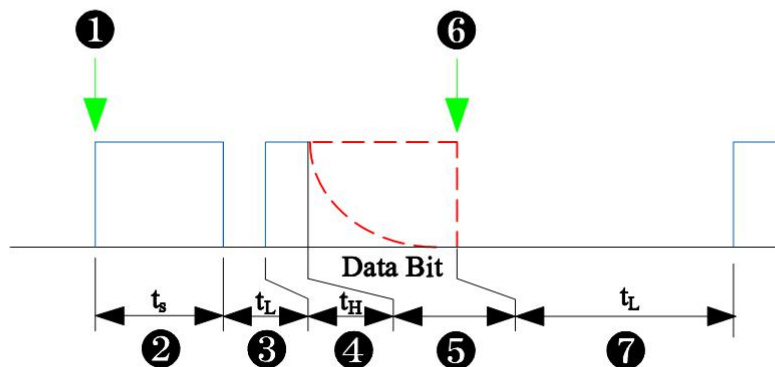

Figure 3
As shown in ⑦ in Figure 3, the DOCI interface remains low for more than 1 system clock cycle during the read process, the data read process is terminated, and the output data latch is updated.